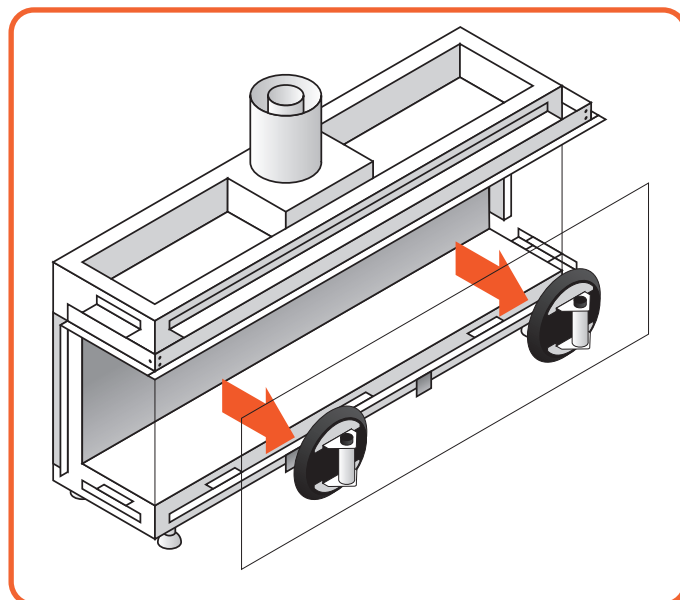

Figure 9.6 | Removing the glass pane
- Lift the glass out of the lower glass rail and tilt it out through the opening, as seen in Figure 9.6.